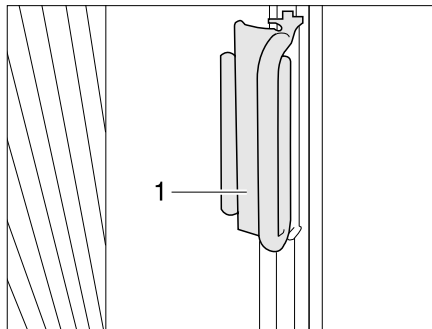

Fig. 12 Handle for Roman shades on driver's/front passenger's windows
- On the Roman shades for the driver's and passenger's window, push the handle (Fig. 12,1) onto the cap. The Roman shade is secured.